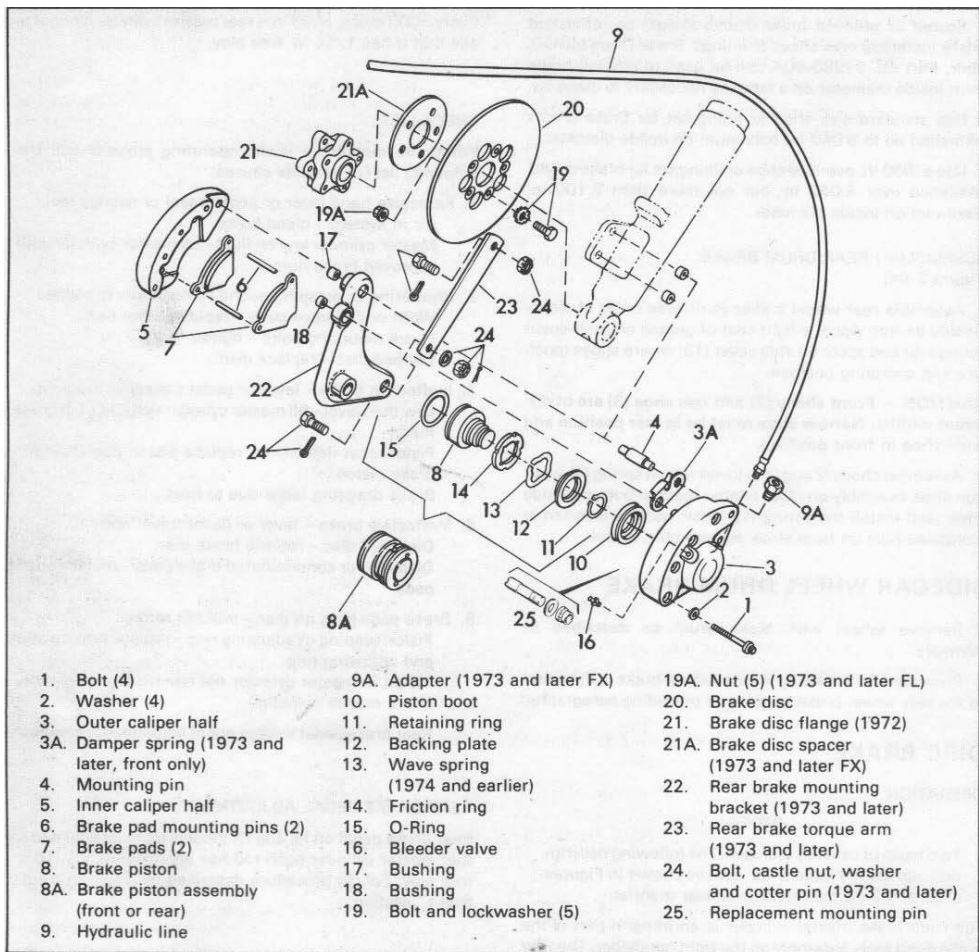
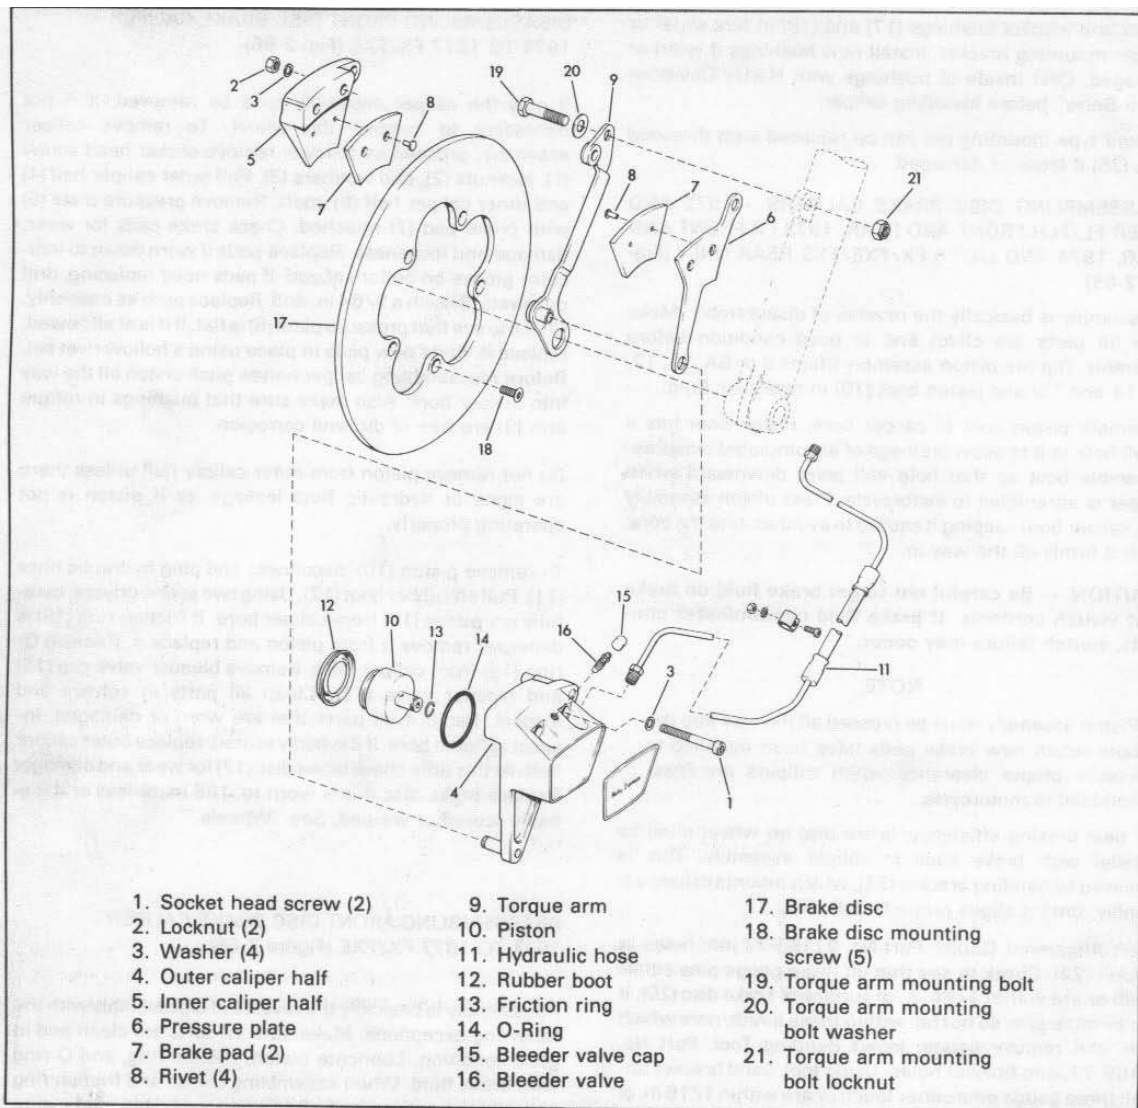
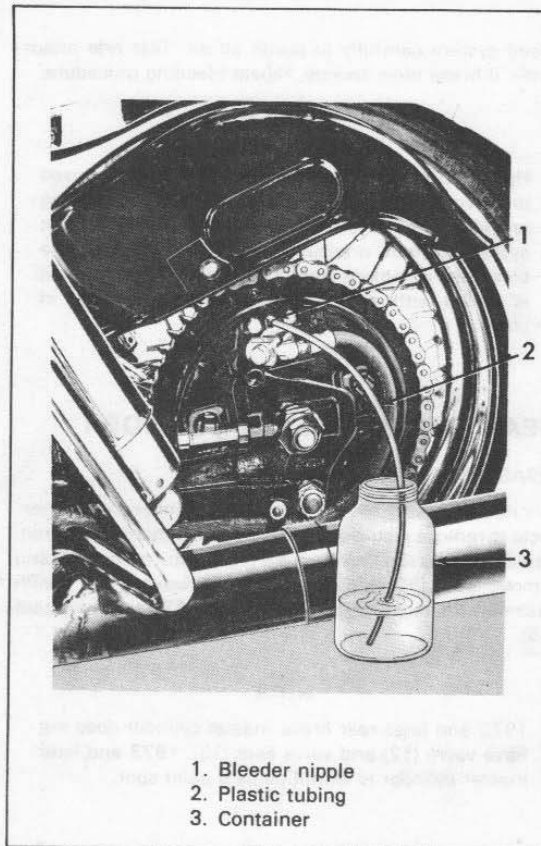

Figure 2-65. Disc Brake - Exploded View, 1972 and Later FL/FLH Front and Rear, 1973 FX Front and Rear, 1974 FX/FXE/FXS Rear Only
Figure 2-66. Front Disc brake, 1974 to 1977 FX/FXE
Figure 2-69. Bleeding Hydraulic Brake System
Two types of calipers are used. The following description applies to Figure 2-65. Brakes shown in Figures 2-65 and 2-66 operate in a similar manner.
DISASSEMBLING DISC BRAKE CALIPERS – 1972 AND LATER FL/FLH FRONT AND REAR, 1973 FX FRONT AND REAR, 1974 AND LATER FX/FXE/FXS REAR ONLY (Figure 2-65)
REASSEMBLING DISC BRAKE CALIPERS - 1972 AND LATER FL/FLH FRONT AND REAR, 1973 FX FRONT AND REAR, 1974 AND LATER FX/FXE/FXS REAR ONLY (Figure 2-65)
DISASSEMBLING FRONT DISC BRAKE CALIPER - 1974 TO 1977 FX/FXE (Fig. 2-66)
REASSEMBLING FRONT DISC BRAKE CALIPER - 1974 TO 1977 FX/FXE (Figure 2-66)
1. After servicing hydraulic brake system where any hydraulic line or cylinder is opened, it is necessary to bleed the system to expel all air. See Figure 2-69.
2. Slip a length of appropriate size plastic tubing (2) over wheel cylinder bleeder nipple (1, Figure 2-69; 16, Figure 2-65 and 15, Figure 2-66). Immerse the other end in any container (3) containing brake fluid.